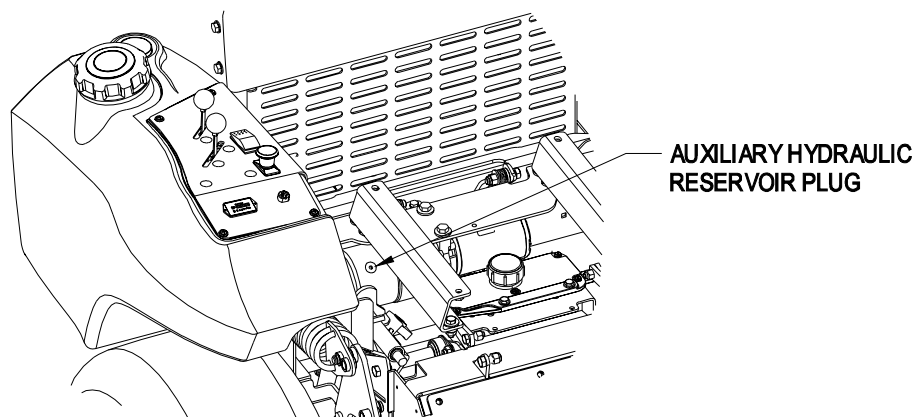

FIGURE 4
- d) Locate the auxiliary hydraulic power unit reservoir. See Figure 4.